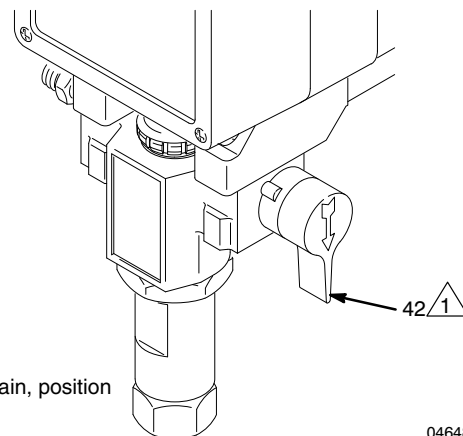

Fig. 7  Open or drain, position
1. **Open the pressure drain valve (42).** See Fig. 7.